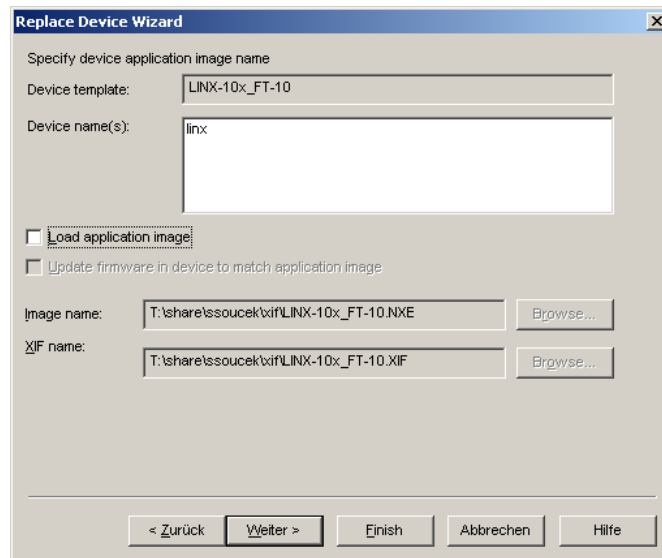

Figure 102: Click Next without loading an application image.
4. In the following window shown in Figure 102 click **Next**.